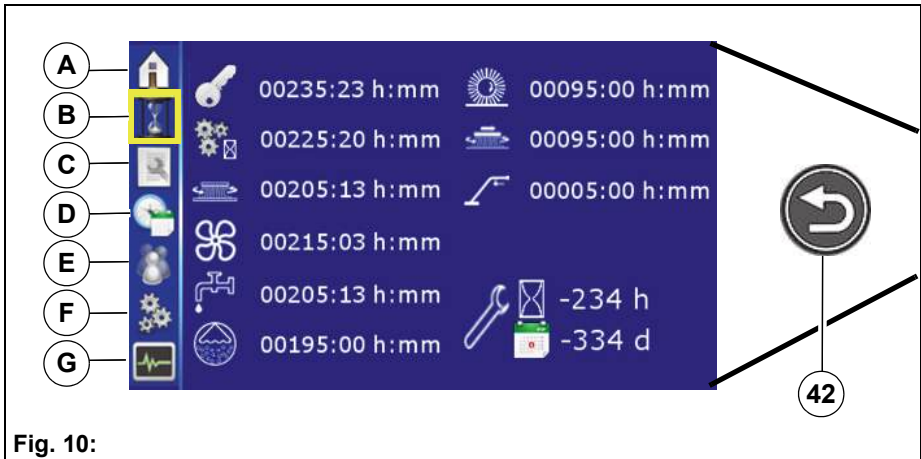

Fig. 10:
- the soft key *Home* **Fig. 10-A** or
Operating hours meter menu Fig. 10-B
Maintenance menu Fig. 10-C
Maintenance menu Fig. 10-C continued
Time/Date menu Fig. 10-D
User settings menu Fig. 10-E
Configuration menu Fig. 10-F
Service information menu Fig. 10-G